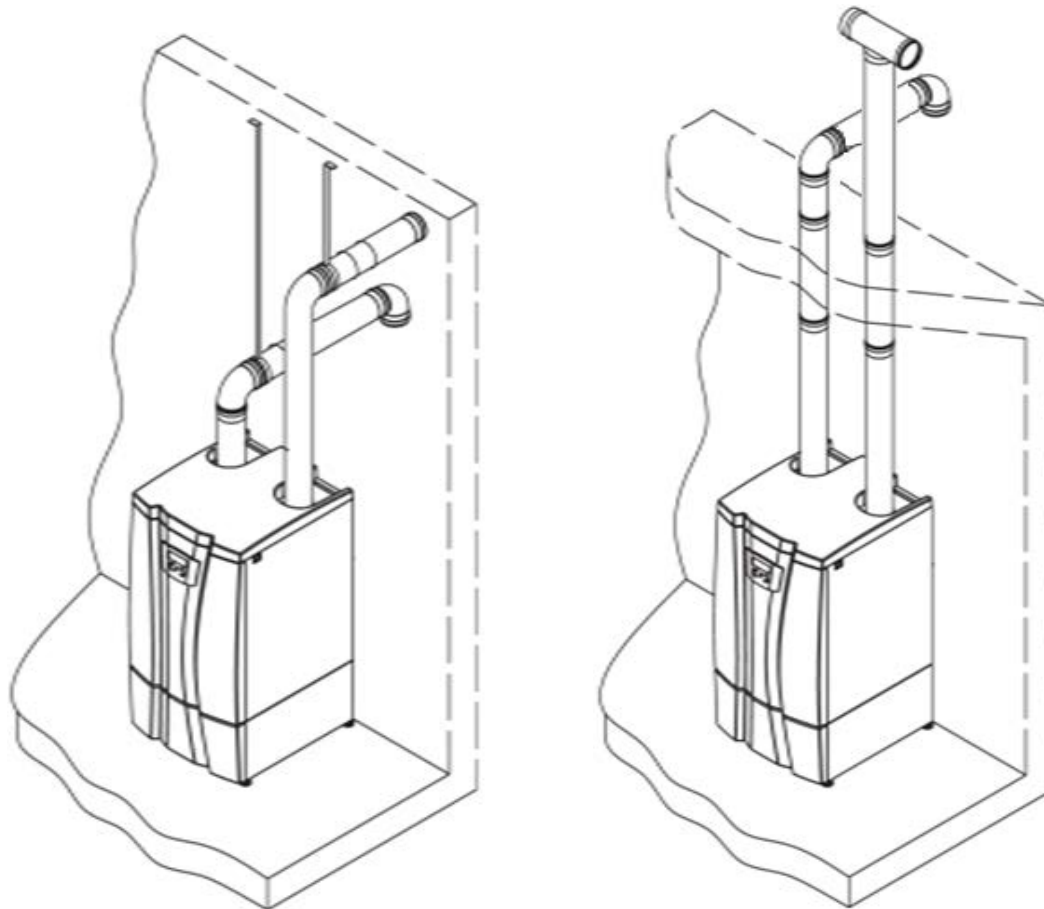

Figure 3: Sealed Combustion Air Inlet and Vent Outlet Locations (Wall & Roof)
- When using sealed combustion, the combustion air inlet and vent outlet must be located on the same surface (same wall, roof, etc.). See Figures 3. This is required so that equal pressure zones are acting on both the air inlet and vent outlet. This makes the installation a balanced vent system, which helps maintain stable combustion characteristics.